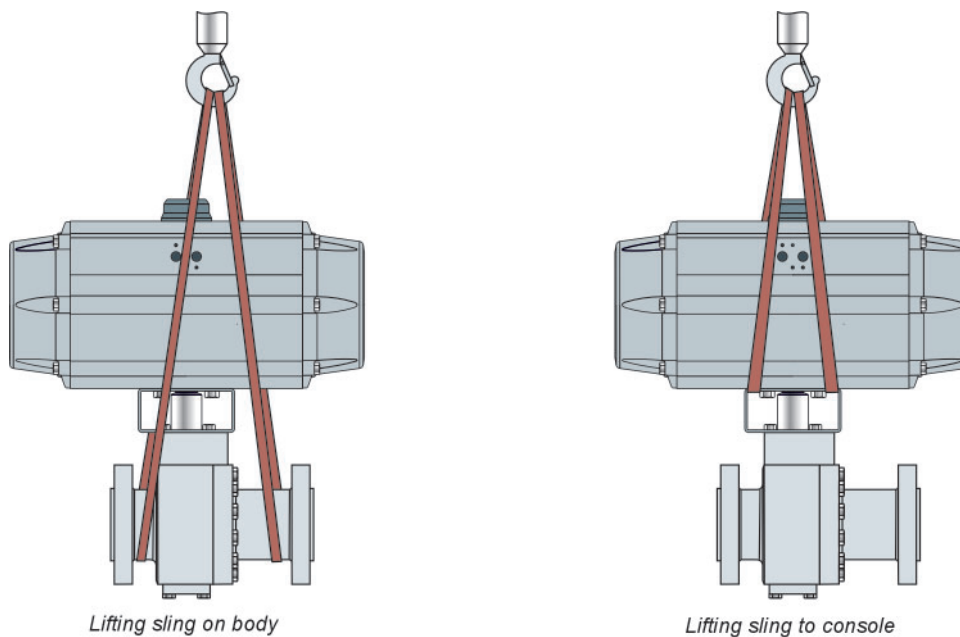

Fig. 4-1: Lifting points on the ball valve
- ⇒ Use a hook with a safety clamp as the suspension element so that the sling cannot slip off the hook during lifting and transport, see Fig. 4-1.
- ⇒ Fasten a lifting sling to each flange of the housing and on the suspension element (e.g. hook) of the crane or forklift, see Fig 4-1. When doing so, ensure the safety, bearing capacity and length of the lifting slings
- ⇒ Fasten a lifting sling to the bracket and the suspension element (e.g. hook) of the crane or forklift, see Fig. 4-1. When doing so, ensure the safety, bearing capacity and length of the lifting slings.